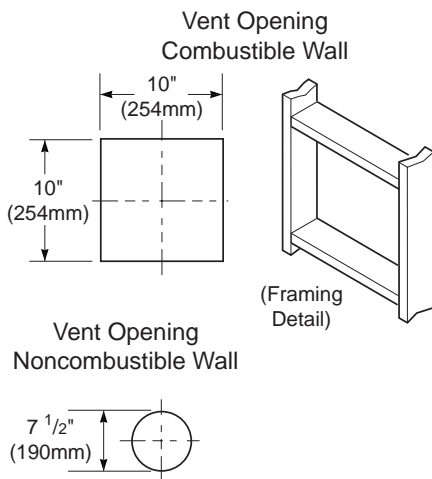
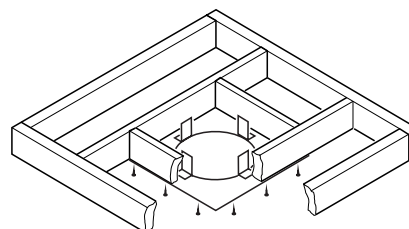

Figure 13 - Vent Opening Requirements
Figure 23 - Installing Firestop
- Attach vent pipe assembly to the fireplace. Set fireplace in front of its permanent location to insure minimum clearances. Mark the wall for a 10" square hole (for noncombustible material such as masonry block or concrete, a 7 1/2" diameter hole is acceptable). See Figure 13. The center of the hole should line up with the center-line of the horizontal rigid vent pipe. Cut a 10"x10" (254mm x 254mm) square hole through combustible exterior wall (7 1/2" [190mm] diameter hole if noncombustible). Frame as necessary (see Figure 13).
1. Cut a 10" square hole in the ceiling using the locating hole as a center point. The opening should be framed to 10"x10" (254mm x 254mm) inside dimensions, as shown in Figure 13 on page 9 using framing lumber the same size as the ceiling joists. If the area above the ceiling is an insulated ceiling or a room, nail firestop from the top side. This prevents loose insulation from falling into the required clearance space. Otherwise, install firestop below the framed hole. The firestop should be installed with no less than three nails per side (see Figure 23).
3. Cut a hole in the roof using the locating hole as a center point. (Cover any exposed open vent pipes before cutting hole in roof.) The 10"x10" hole must be measured on the horizontal; actual length may be larger depending on the pitch of the roof. There must be a 1" clearance from the vent pipe to combustible materials. Frame the opening as shown in Figure 13 on page 9.